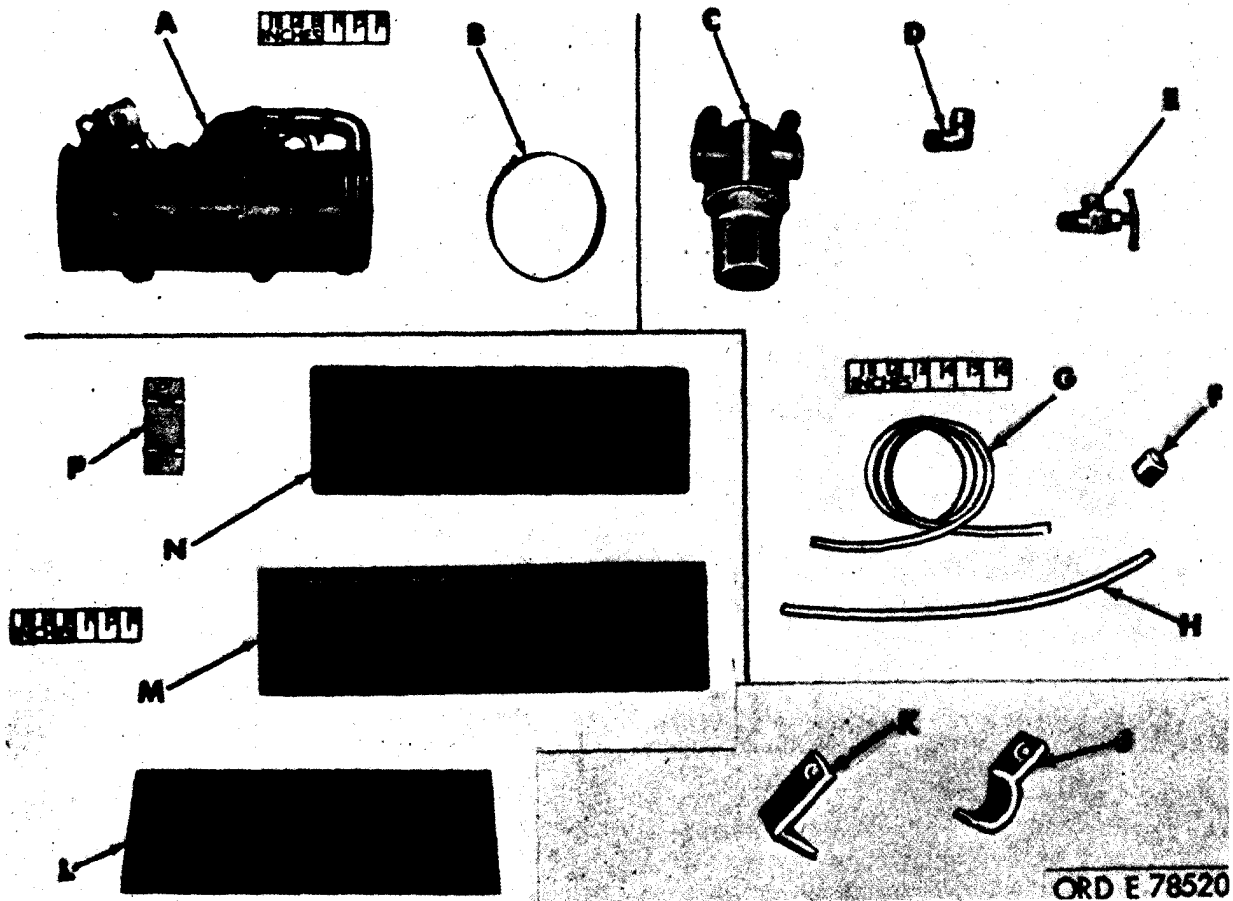

Figure 693. Major parts-winterization kit, power plant heater (1 of 4).
- (c) *Composition of Kit.* The kit is comprised of a coolant heater, battery box and covers, with necessary wiring controls and piping. Figures 693 through 696 indicate kit contents.